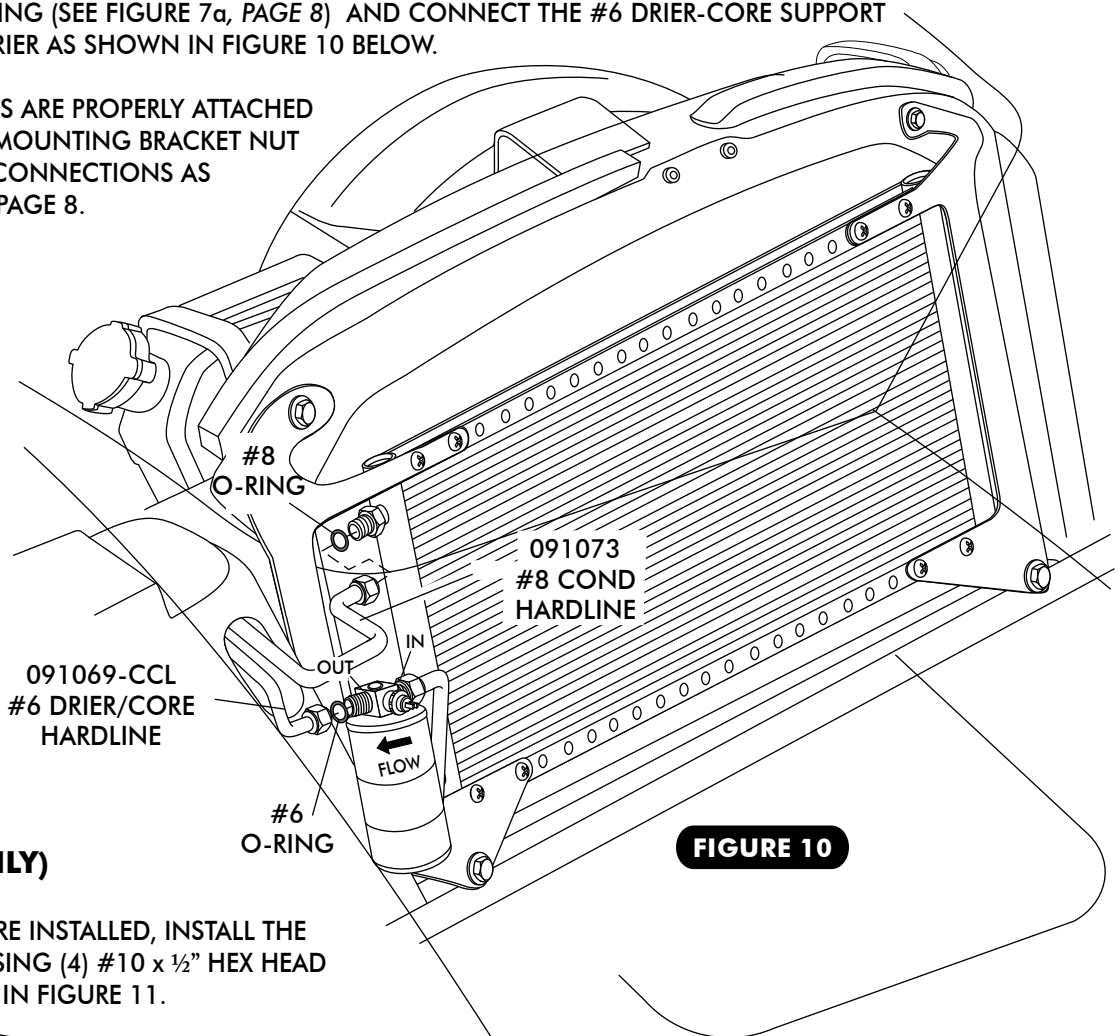

FIGURE 10
- ❑ LUBRICATE A #8 O-RING (SEE FIGURE 7a, PAGE 8) AND CONNECT THE #8 CONDENSER-CORE SUPPORT HARDLINE TO THE CONDENSER AS SHOWN IN FIGURE 10 BELOW.
- ❑ LUBRICATE A #6 O-RING (SEE FIGURE 7a, PAGE 8) AND CONNECT THE #6 DRIER-CORE SUPPORT HARDLINE TO THE DRIER AS SHOWN IN FIGURE 10 BELOW.